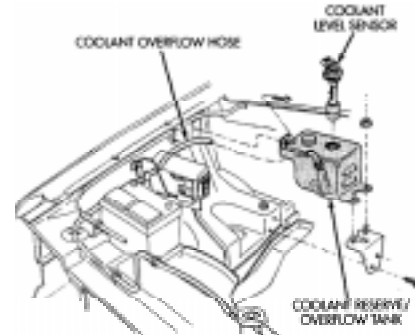

Fig. 6b GRAND CHEROKEE
3. **GRAND CHEROKEE ONLY:** Remove the coolant reserve/overflow tank (one bolt and two nuts) (Fig. 6b, Pg. 4).